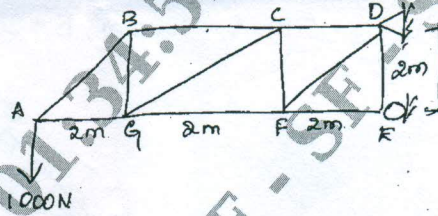

Fig.Q2(b)
- b. Determine the force in members CB and GC and state whether the members are in tension or compression Fig.Q2(b). Adopt method of section. (10 Marks)